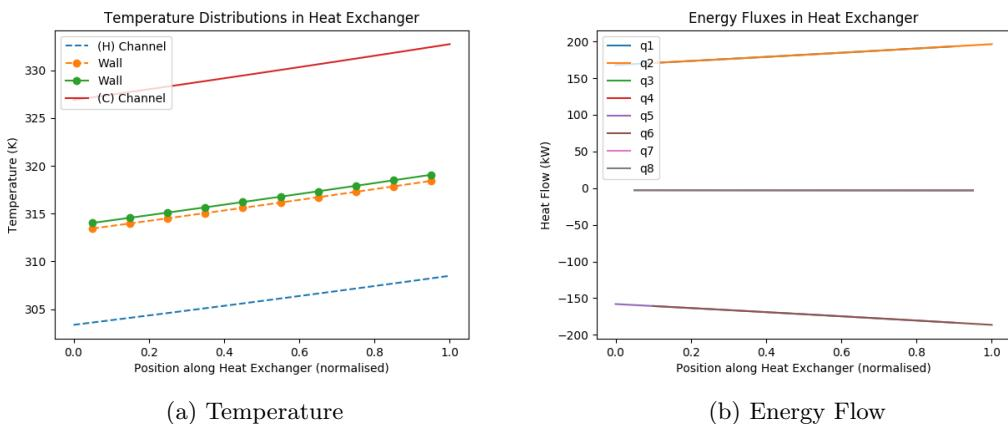

Figure 8: Temperature distributions and energy fluxes within the heat exchanger for case (1).
The boundary conditions and corresponding results for the 10 cases presented by Xie et al. are shown in Tab. 5. Table 6 shows the results from a cell number (`N_cell`) independency study, which shows that results become grid independent once more than 20 cells are used. The corresponding detailed results for test case (1) are shown in Fig. 8. These plots show the temperature profiles with respect to normalised position along the heat exchanger and also the internal heat fluxes corresponding to Fig. 8b.